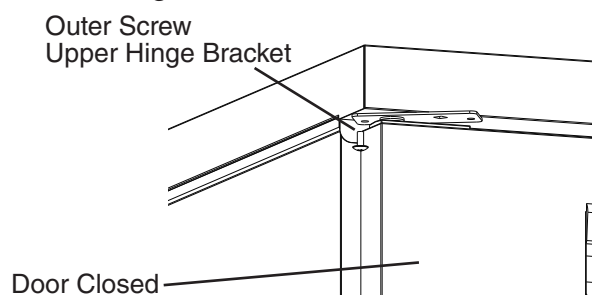

Fig. 12
- 12) Install the outer screw into the upper hinge bracket. Do not tighten the screw yet. Start the screw for a few threads only and leave loose. See Fig. 12.